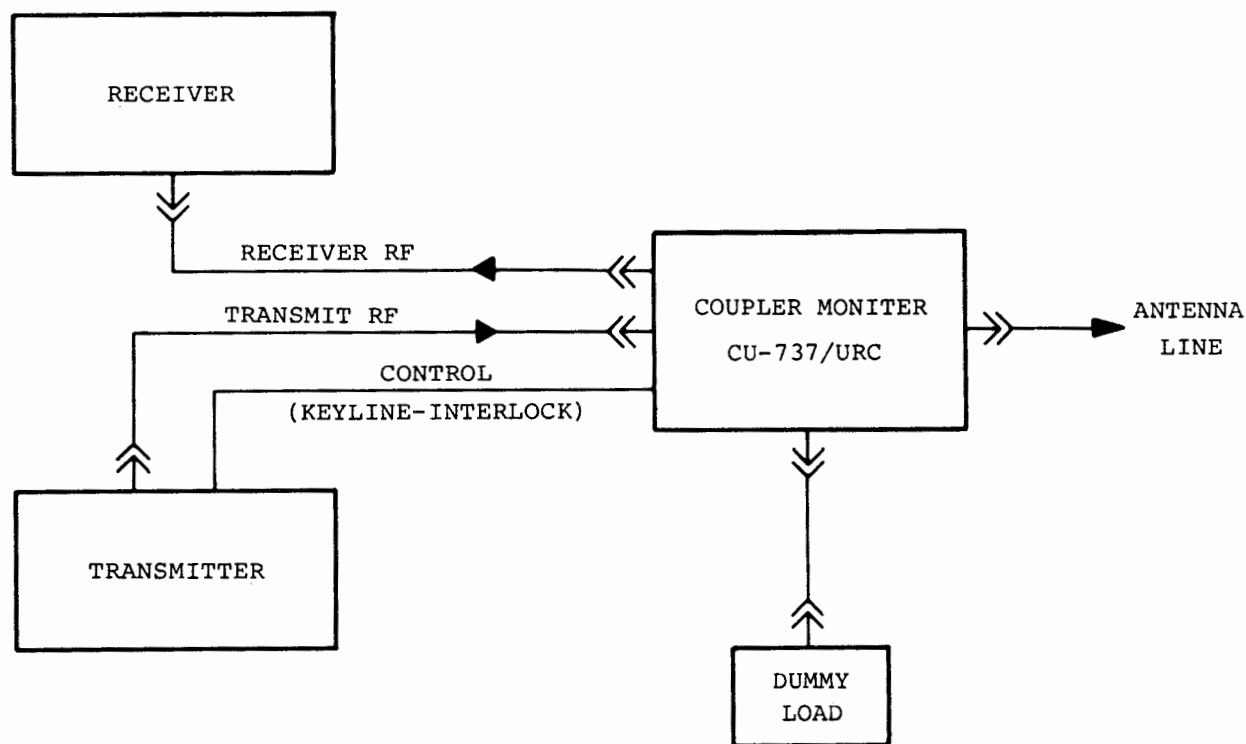

Figure 6-18 Coupler Monitor CU-737/URC Interconnection Diagram
c. INTERCONNECTION DIAGRAM. - See Figure 6-18.